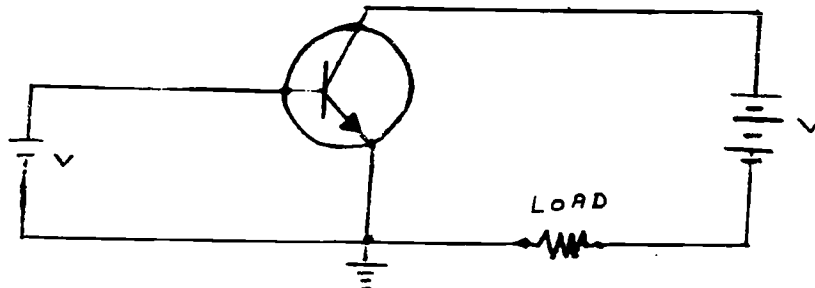

Figure 8
4. Using the Junction Transistor in Figure 8, indicate current flow thru the circuit using arrows.